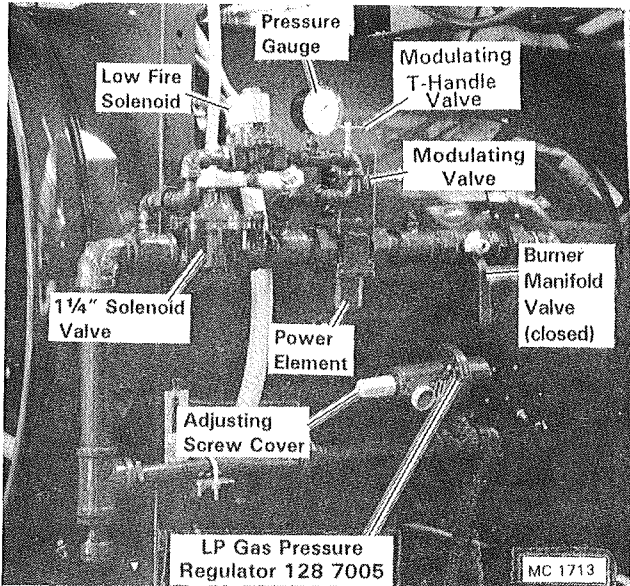

Figure 16
3. Close the gas hand valve for burner(s) (handle 90° to the piping). See Figure 16.
4. Check the modulating valve in gas manifold(s) to be sure the "T" handle has not been turned all the way in to the wide open position. See Figure 16. The "T" handle should be halfway between the closed and fully open position.
- Be sure high-low switch is in the LOW position. Open the gas hand valve (Figure 16) all the way (handle parallel to the valve). Turn the burner ignition switch to the ON position. After a (15) second delay the gas valve light will be ON and the burner will light.